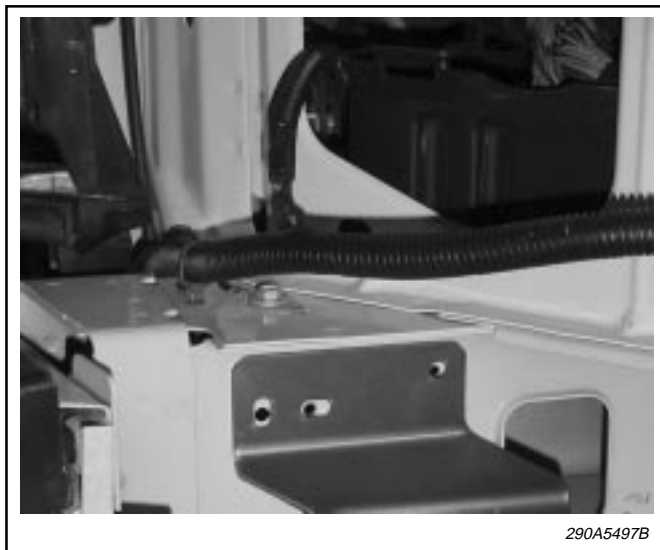

Figure 4.
- c. See figure 4. Attach assembled unit to vehicle using supplied 1/4" Type B screws, lockwashers and flat washers.